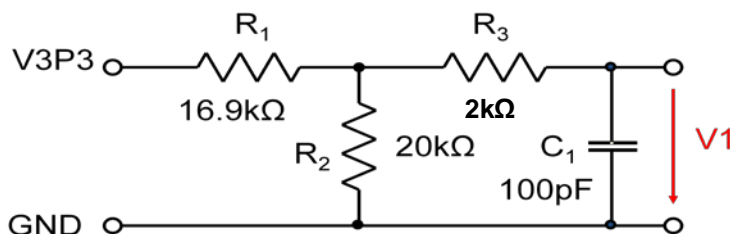

Figure 15: Voltage Divider for V1
The V1 pin is connected to an internal power-fail comparator. The V1 input voltage is compared to an internal reference voltage of 1.6 V (VBIAS). If the V1 voltage is above VBIAS, the comparator output is high (1) signaling normal operation. If the V1 voltage is below VBIAS, the comparator output is low (0) signaling battery mode operation (via an external battery attached to the VBAT pin). Connect the voltage divider shown in Figure 15 to the V1 pin to enable normal (WDT enabled) 78M6618 operation. The watchdog may be disabled for debugging by raising the V1 pin above 2.9 V.